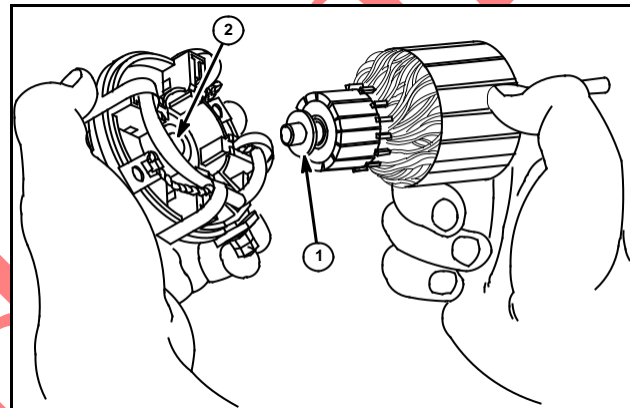

Fig. 47
5. Assemble spacers (1) and drive head end bracket, bearing shown – (2), aligning seam in housing with drive end mounting bracket.
7. Armature end play should be .006" to .038" (.15 to .97 mm) after assembly, Fig. 47.